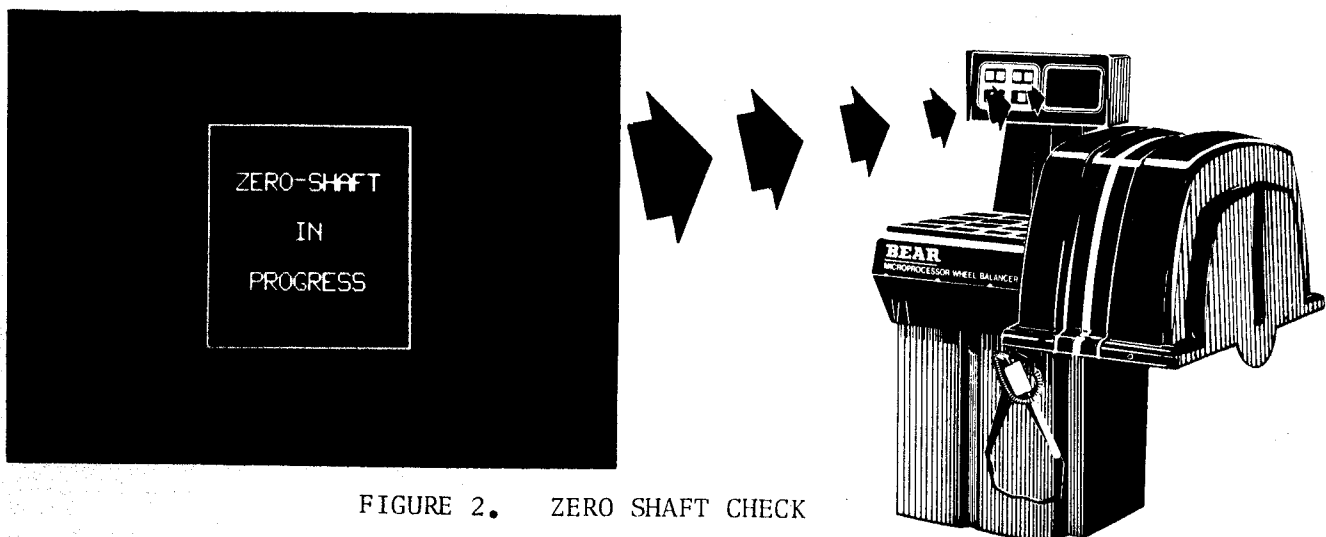

FIGURE 2. ZERO SHAFT CHECK
- 3). Push Start Button. Display shows Figure 2 while balancer is running. When shaft stops, display in Figure 3 will be shown.